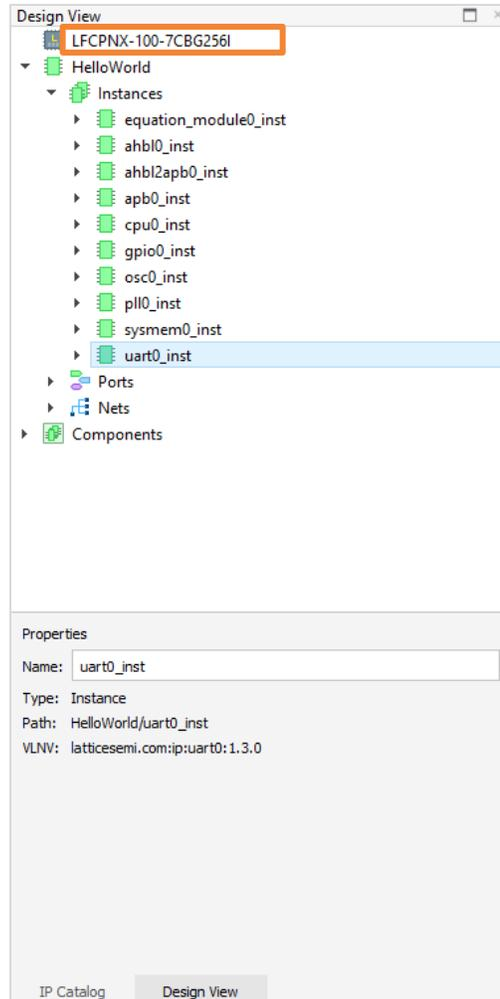

Figure 2.89. Design View of Device Part Number
4. Click **Yes**. By clicking **Yes**, the Builder engine regenerates each IP in the project with the updated device settings. All IPs in current project are configured. The new device part number shows in Design View (Figure 2.89).